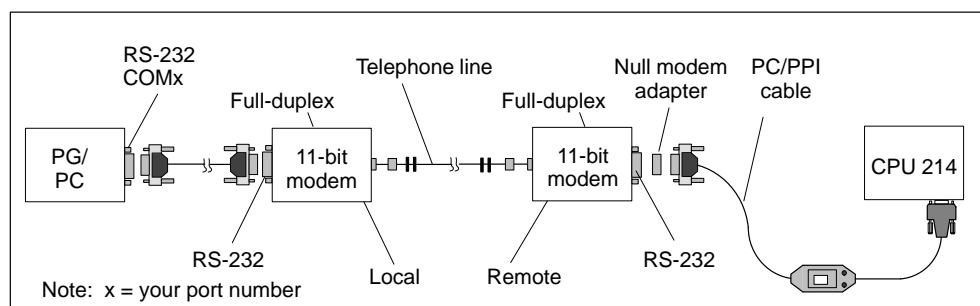

Figure 3-14 S7-200 Data Communications Using an 11-Bit Modem
Depending on whether you want to connect to only one S7-200 CPU or to a network of them, you need the following cables and adapter (see Figure 3-14):
- The communications port of the S7-200 CPU (see Figure 3-14)
The General Information tab of the Configure Modems dialog box provides the 11-bit data string requirements for the modems and lists the hardware components that you need. Figure 3-14 shows the same hardware components.
21. Ensure that your setup matches the one shown in the General Information tab of the Configure Modems dialog box. See also Figure 3-14.